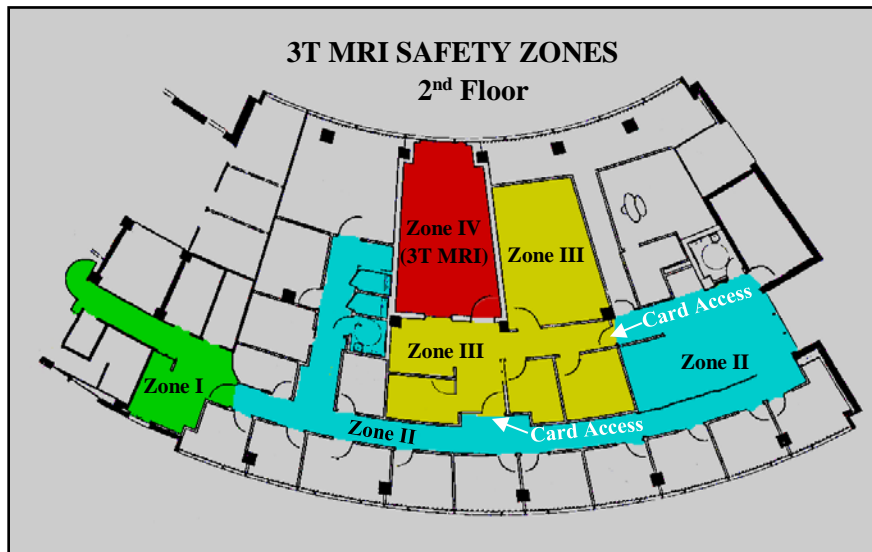

Figure 1.
- Due to the inherent hazards associated with the static magnetic field, access to the 3T MRI facility is restricted to ensure the safety of all patients, subjects, visitors, and staff. The facility is divided into four zones of increasing level of potential risk and increasing access restriction as shown in Figure 1 below.
- Zone III can be accessed through either of the two locked 3T MRI suite doors as shown in Figure 1. (Room 2245), and surrounds all areas beyond these doors, including the 3T control room, equipment room, DNP lab, animal prep room, and hyperpolarized gas lab.